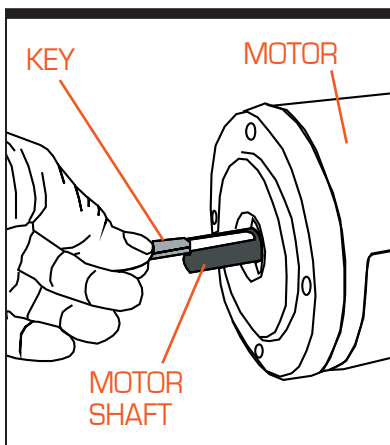

Figure 5-2. Motor Key/Shaft
Step 7—Install Motor. Install the key to the motor shaft and coat the shaft with anti-seize compound (see Figure 5-2). Insert the motor shaft into the speed reducer. Rotate the motor to the correct position and firmly secure to flange with four hex-head cap screws. Do not allow the motor to "hang" unsupported before fully seated in the reducer to avoid damaging the reducer input seal. If the motor does not readily seat itself, check to see if the key has moved.